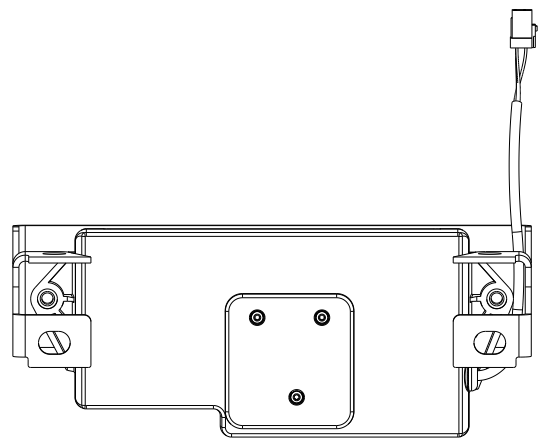

Figure 52 – Wireless module cable
- Tuck the wireless module cable against the wireless module boss when you install the supplied wireless module. Route the cable to point up on the patient left side (Figure 52).